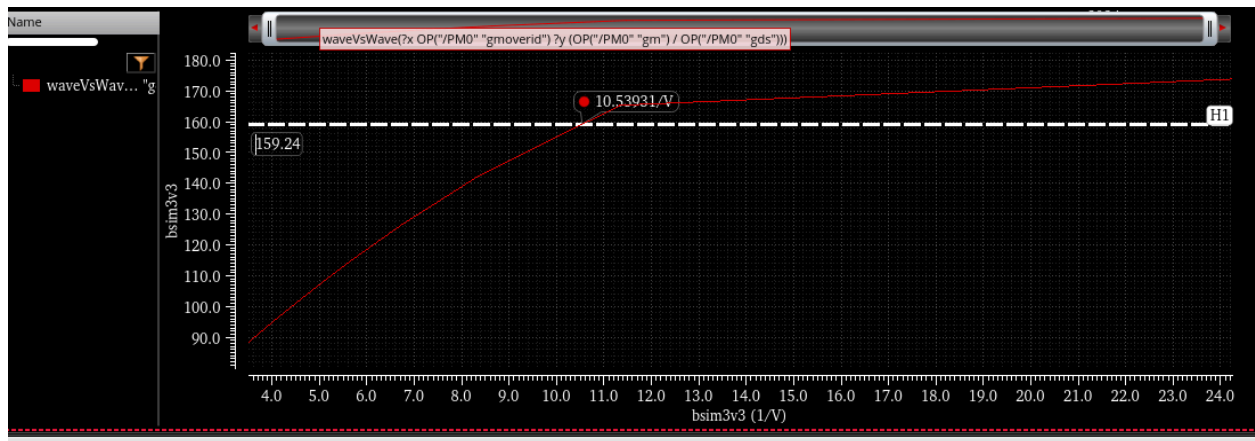

Fig16: g_m/g_{ds} vs g_m/i_d
- g_m/i_d coming out to be 10.53931/V (fig 16)
- g_m/I_d coming out to be $10.53931/V$ (fig 16)